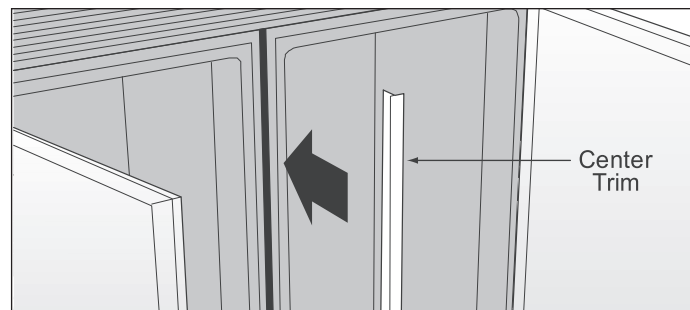

Figure 2-28.
2. Re-check the level of each unit. Depending on the flatness of your floor, you may need to readjust several times before achieving an acceptable state of levelness and alignment. Allow 3/8" gap between units for center trim (G or H). (See Figure 2-28).